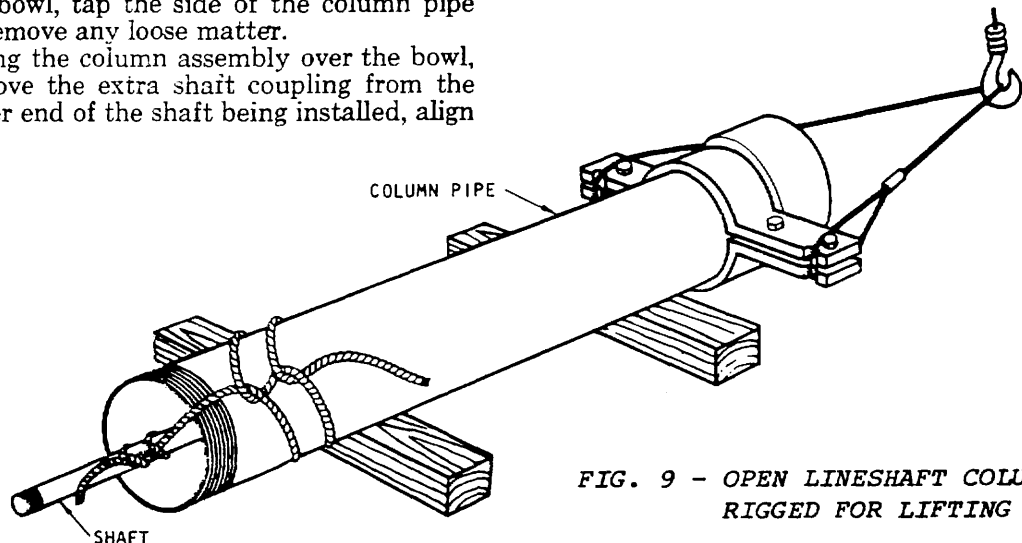

FIG. 9 - OPEN LINESHAFT COLUMN SECTION RIGGED FOR LIFTING
2. Secure a friction clamp immediately beneath the column coupling (if column is flanged, secure the clamp about 6" below the bottom of the flange) on the first section of column to be installed. See Fig. 9.
3. Screw a shaft coupling onto the upper end of the shaft to protect the shaft threads and face while sliding it into the column pipe (on smaller column sizes where there is not enough clearance to allow removal of the shaft coupling after the shaft is in the pipe, wrap a rag around the end of the shaft). Slide the shaft into the column pipe until it protrudes approximately 12" past the bottom end of the pipe. Remove the coupling (or rag) installed above. Make certain that shaft sleeve, if furnished, is toward the upper end of the pipe. Tie a series of half hitches to the column pipe and to the shaft with a $\frac{3}{4}$ " rope, so as to prevent the shaft from sliding out of the column pipe when the assembly is hoisted to the vertical position. Attach a sling to the clamp ears. See Fig. 9. Screw a shaft coupling onto the lower end of the shaft to protect the shaft face and threads in case the shaft slips during handling.